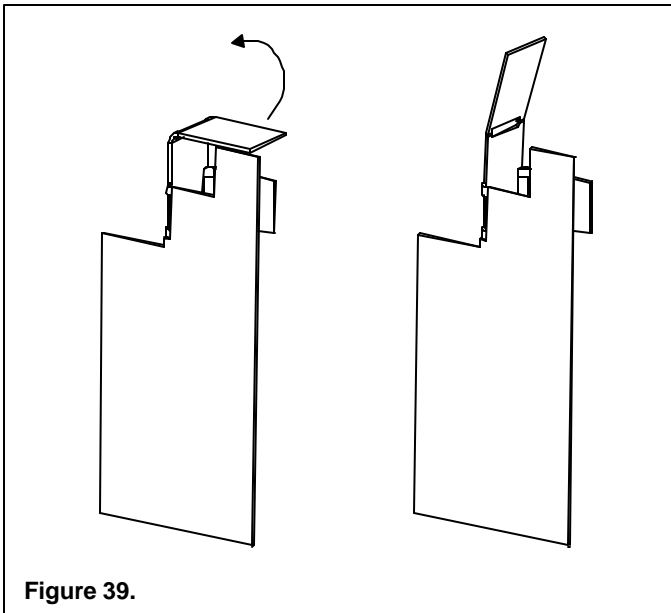

Figure 39.
- Bend top retaining tab of grate shipping support into vertical position (see Figure 39).